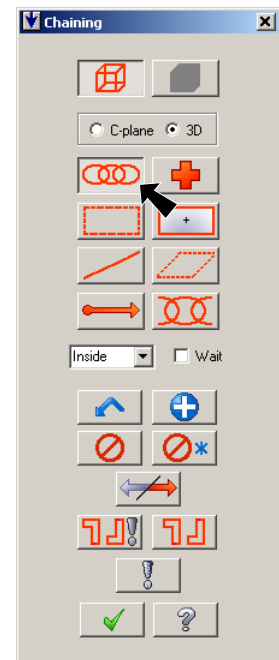

Fig. 11
Step 3. Click Chain  in Chaining dialog box, **Fig. 11**.